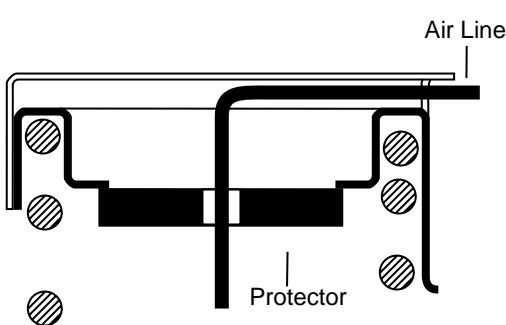

Figure 2
5. Install protector in upper spring seat as shown in Figure 2.